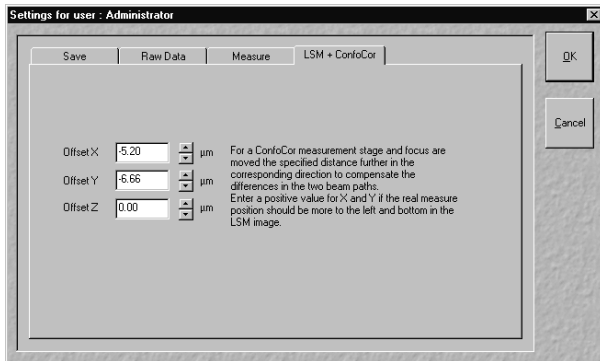

Fig. 5-400 The Settings for user window with the LSM+ConfoCor tab selected
- Type the measured distance correction values under **Options / FCS Settings** in the **LSM + ConfoCor** tab (see Fig. 5-400).
- Type the calculated values under **Options / FCS Settings** in the **LSM + ConfoCor** tab (see Fig. 5-400).